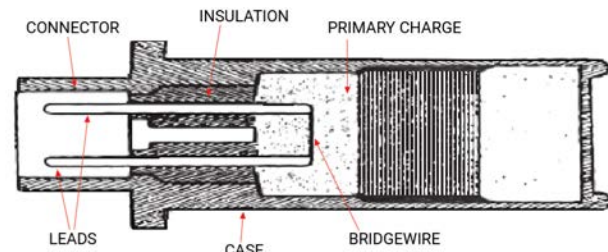

Figure 1. Parts of an electro-explosive devices.
- **Ordnance** – Cellphones emit low levels of radio frequencies. Never transmit radio or cellphone signals near ordnance. Many types of ordnance contain electro-explosive devices (EED) (see Figure 1) and radio or cellphone signals can easily activate the EEDs.
For EEDs, voltage comes in one lead (see Figure 1), passes across the bridgewire and out the other lead. When this energy transfer occurs, the current causes the bridge wire to heat up inside a very sensitive explosive mixture – like the filament in a light bulb. The glowing wire ignites the primary charge and starts the explosive reaction to fire a round, ignite a rocket motor or launch an ejection seat.
Figure 1. Incorrectly installed ESD tape. Figure 2. The four steps to correctly wrap ESD tape to keep the interior clean and FOD-free. (Left: U.S. Marine Corps photo by Master Gunnery Sgt. Jerod Williams, Right: Four photos courtesy of ASEMICAP Newsletter)
We have also noted some personnel have the ESD grid tape wrapped around the side of the connector and then adhered to itself or twisted together at the top forming a sort of cone over the connector. We have found that when using this method due to the ESD grid tape's propensity to slough off the adhesive when exposed to environment, the ESD grid tape will open up at the top and expose the connector to any undesirable static charges. This opening also leaves a greater possibility the remaining adhesive will be exposed to the environment and slough off onto the pins or connector itself. With those factors in mind, ASEMICAP does not recommend the method in Figure 1., the method shown in Figure 2 will allow the entire connector to remain covered and therefore provide less of a chance of adhesive sloughing or exposure to charges."